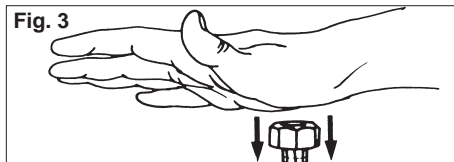

Fig. 3
3. Snap nut and collet together by firmly applying downward pressure onto assembly with the palm of hand (Fig. 3).